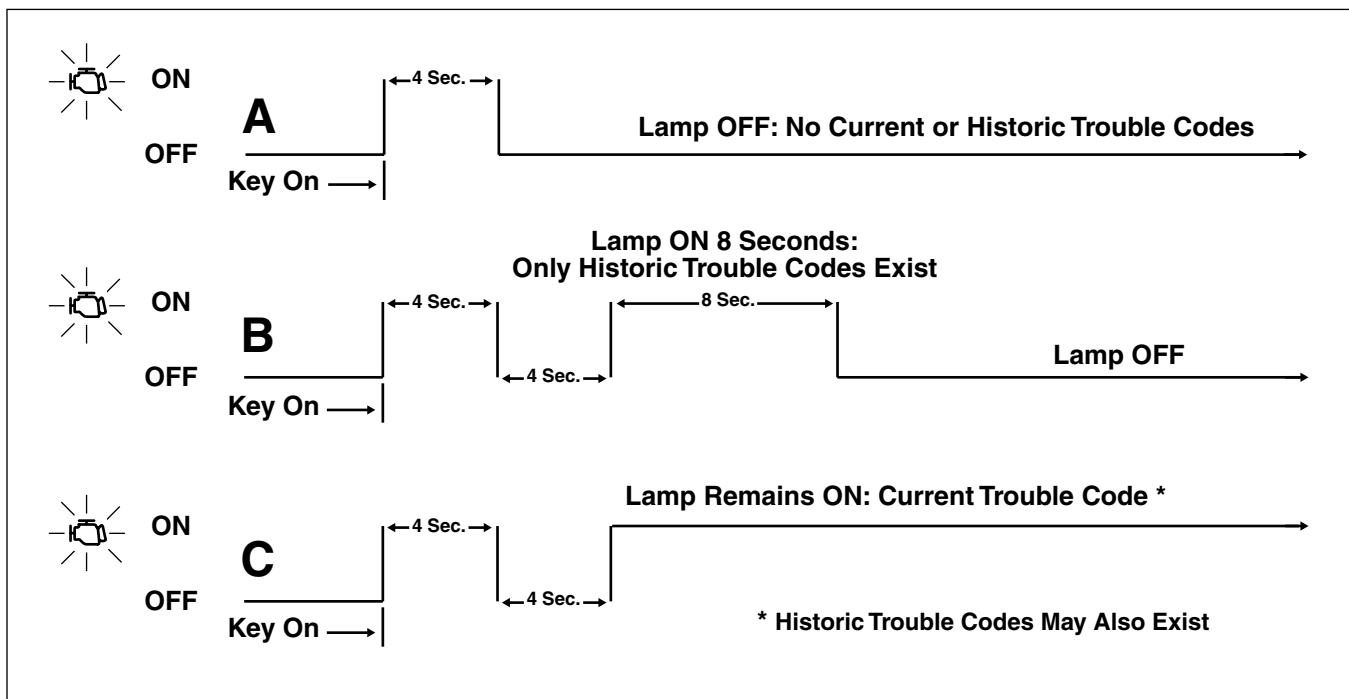

Figure 5-5. Check Engine Lamp Operation
- a. Remain off if there are no fault conditions or trouble codes currently detected by the ignition control module. See A of Figure 5-5.
- b. Come back on for an 8 second period if only historic codes exist. See B of Figure 5-5.
- c. Come back on, and remain on, if a current trouble code exists. See C of Figure 5-5.
Historic codes are stored for a length of time to assist in the diagnosis of intermittent faults. See Figure 5-5. The check engine lamp will come back on for 8 seconds to indicate the existence of only historic codes.